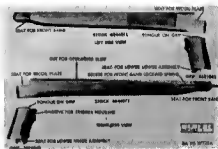

Figure 106. Stock end and grip for carbine M1A1.
a. Inspect corresponding parts of stock as for carbines M1, M2, and M3 (Figs. 106 and 107). Refer to page 90.